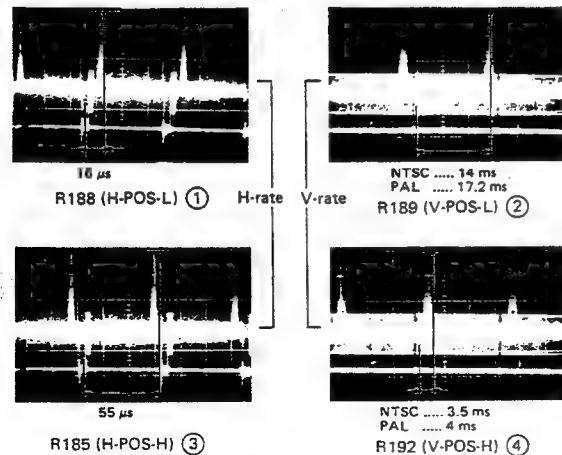

Fig. 5-4
- (1) Set the unit to wipe mode ☒ and turn the positioner switch to ON.
- (2) Adjust the MIX/SE lever as shown in Fig. 5-4.
- (3) In the right figure, when the positioner is shifted in the direction of arrow (1), adjust R188 (H-POS-L) so that the phase between front of the sync pulse and peak is 16 μ s.
- When the positioner is shifted in the directions of arrows (2), (3) and (4), adjust R189 (V-POS-L), R185 (H-POS-H) and R192 (V-POS-H) so that the phases adjust as shown below respectively.